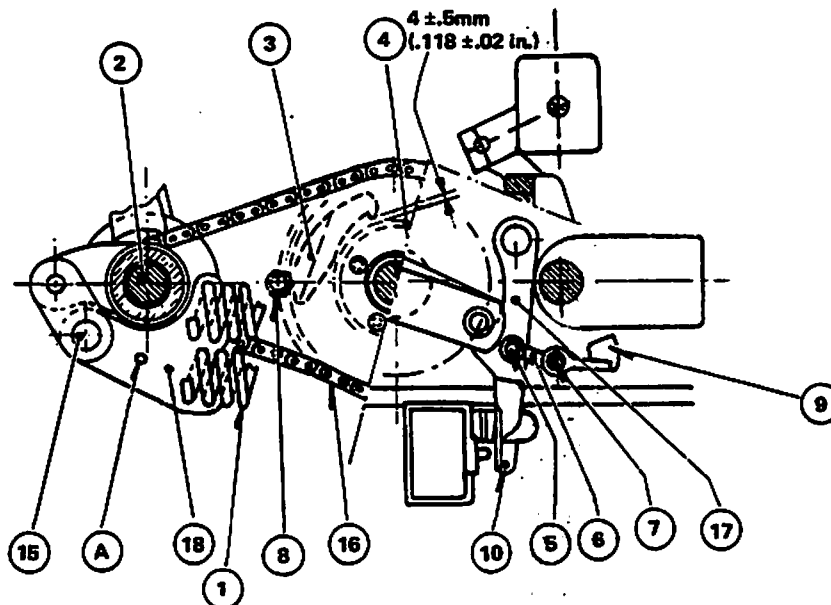

Figure 8
- Clearance between the ratchet pawl (3, Fig. 8) and the sprocket wheel (4, Fig. 8) is different from the prescribed clearance. – See 7.4.4 for adjustment.
7.3.2 Problem with the Spring Charging Motor or in the Chain (16) (Figure 8)
- (a) The trip bar (8) is not warped and is not held upward by foreign matter.
- (b) That the pins (11) are provided with washers and split rings.
- (c) That the lever (12) is not warped and moves freely.
- (d) That the spring (13) is fastened securely.
7.4.3 Checking the Closing Release (7) for Closing the Breaker (Figure 8)
- (a) Check for free movement of closing release bar (7) and make sure that when it is in the stop position, the right end of lever (6) is stopped by the slot (9) in the dividing plate.
- (b) Roller (5) should engage lever (6) with a minimum overlap of 1.5mm (.06 inch).
7.4.4 Adjustment of the Clearance between the Ratchet Pawl (3) and the Sprocket Wheel (4) to prevent undue stresses to the Chain or to the Spring Charging Motor (Figure 8)
Replacement of Closing Springs (Fig. 8).